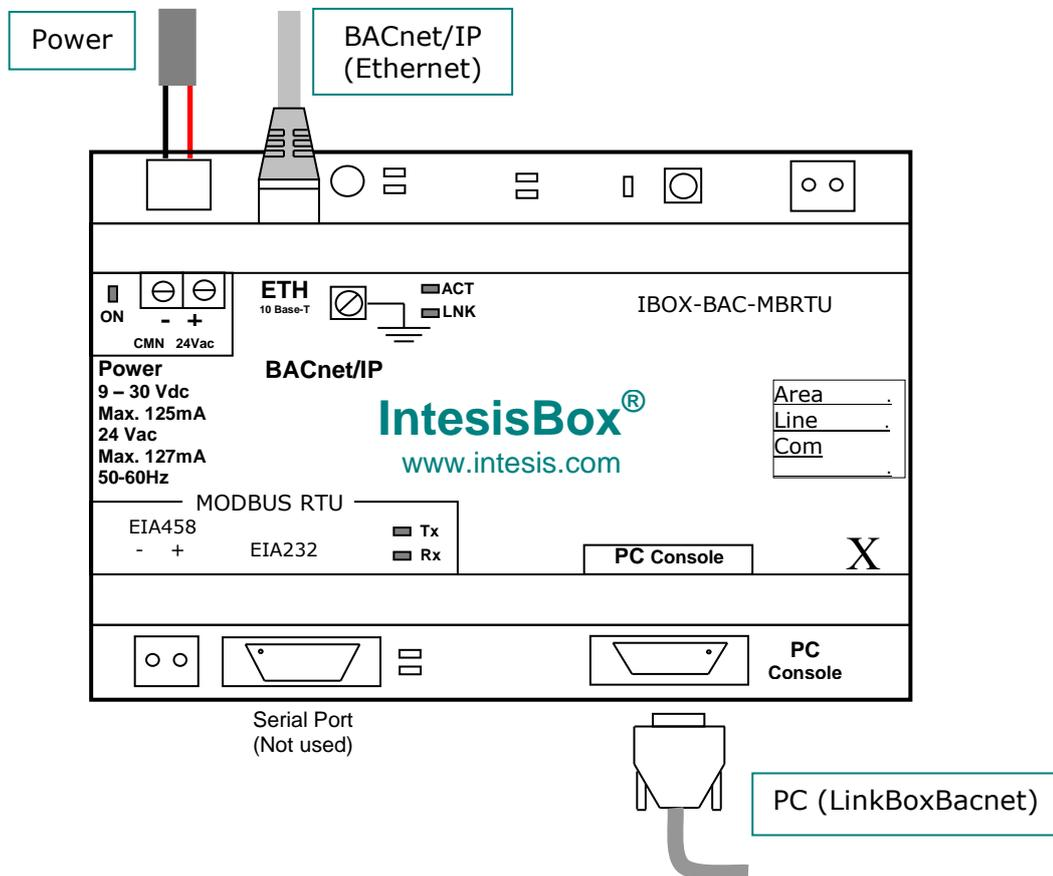

Figure 4.1 Device connection diagram
The first step to perform is to power up the device. To do so a power supply working with any of the voltage range allowed is needed (check section 6). Once connected the ON led (Figure 4.1) will turn on.
Connect the communication cable coming from the Modbus network to the port marked as Modbus of IntesisBox (Figure 4.1). Two methods to connect to the Modbus network can be used:
Connect the communication cable coming from the network hub or switch to the ETH port (Figure 4.1) of IntesisBox. The cable to be used depends on where the IntesisBox is being connected:
- Ethernet: Using the ETH port (Figure 4.1) of IntesisBox. How to check connectivity is explained in section 4.3.
- Serial cable: To connect the device to the PC the serial cable supplied should be plugged to the PC console port (Figure 4.1). The cable is a RS-232 straight cable and its pinout is at explained in Table 4.2.